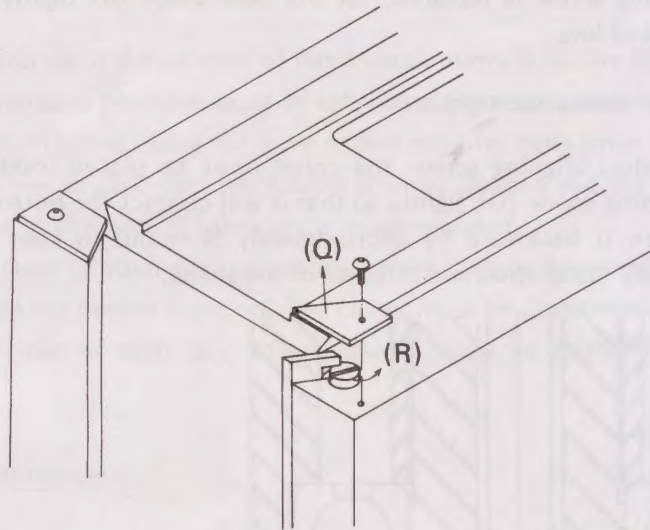

Figure 34
C. Adjustment of Knee Gib (Vide Figure 34):